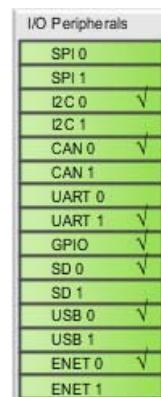

Figure 2-4: I/O Peripherals with Active Peripherals Identified
1. Double-click the **ZYNQ7 Processing System** block in the Block Diagram window. The Re-customize IP dialog box opens. Notice that by default, the processor system does not have any peripherals connected. Connections are symbolized with check marks, as shown in Figure 2-4, page 18.
3. In the block diagram, click one of the green I/O Peripherals (as shown in Figure 2-4). The MIO Configuration window opens for the selected peripheral.